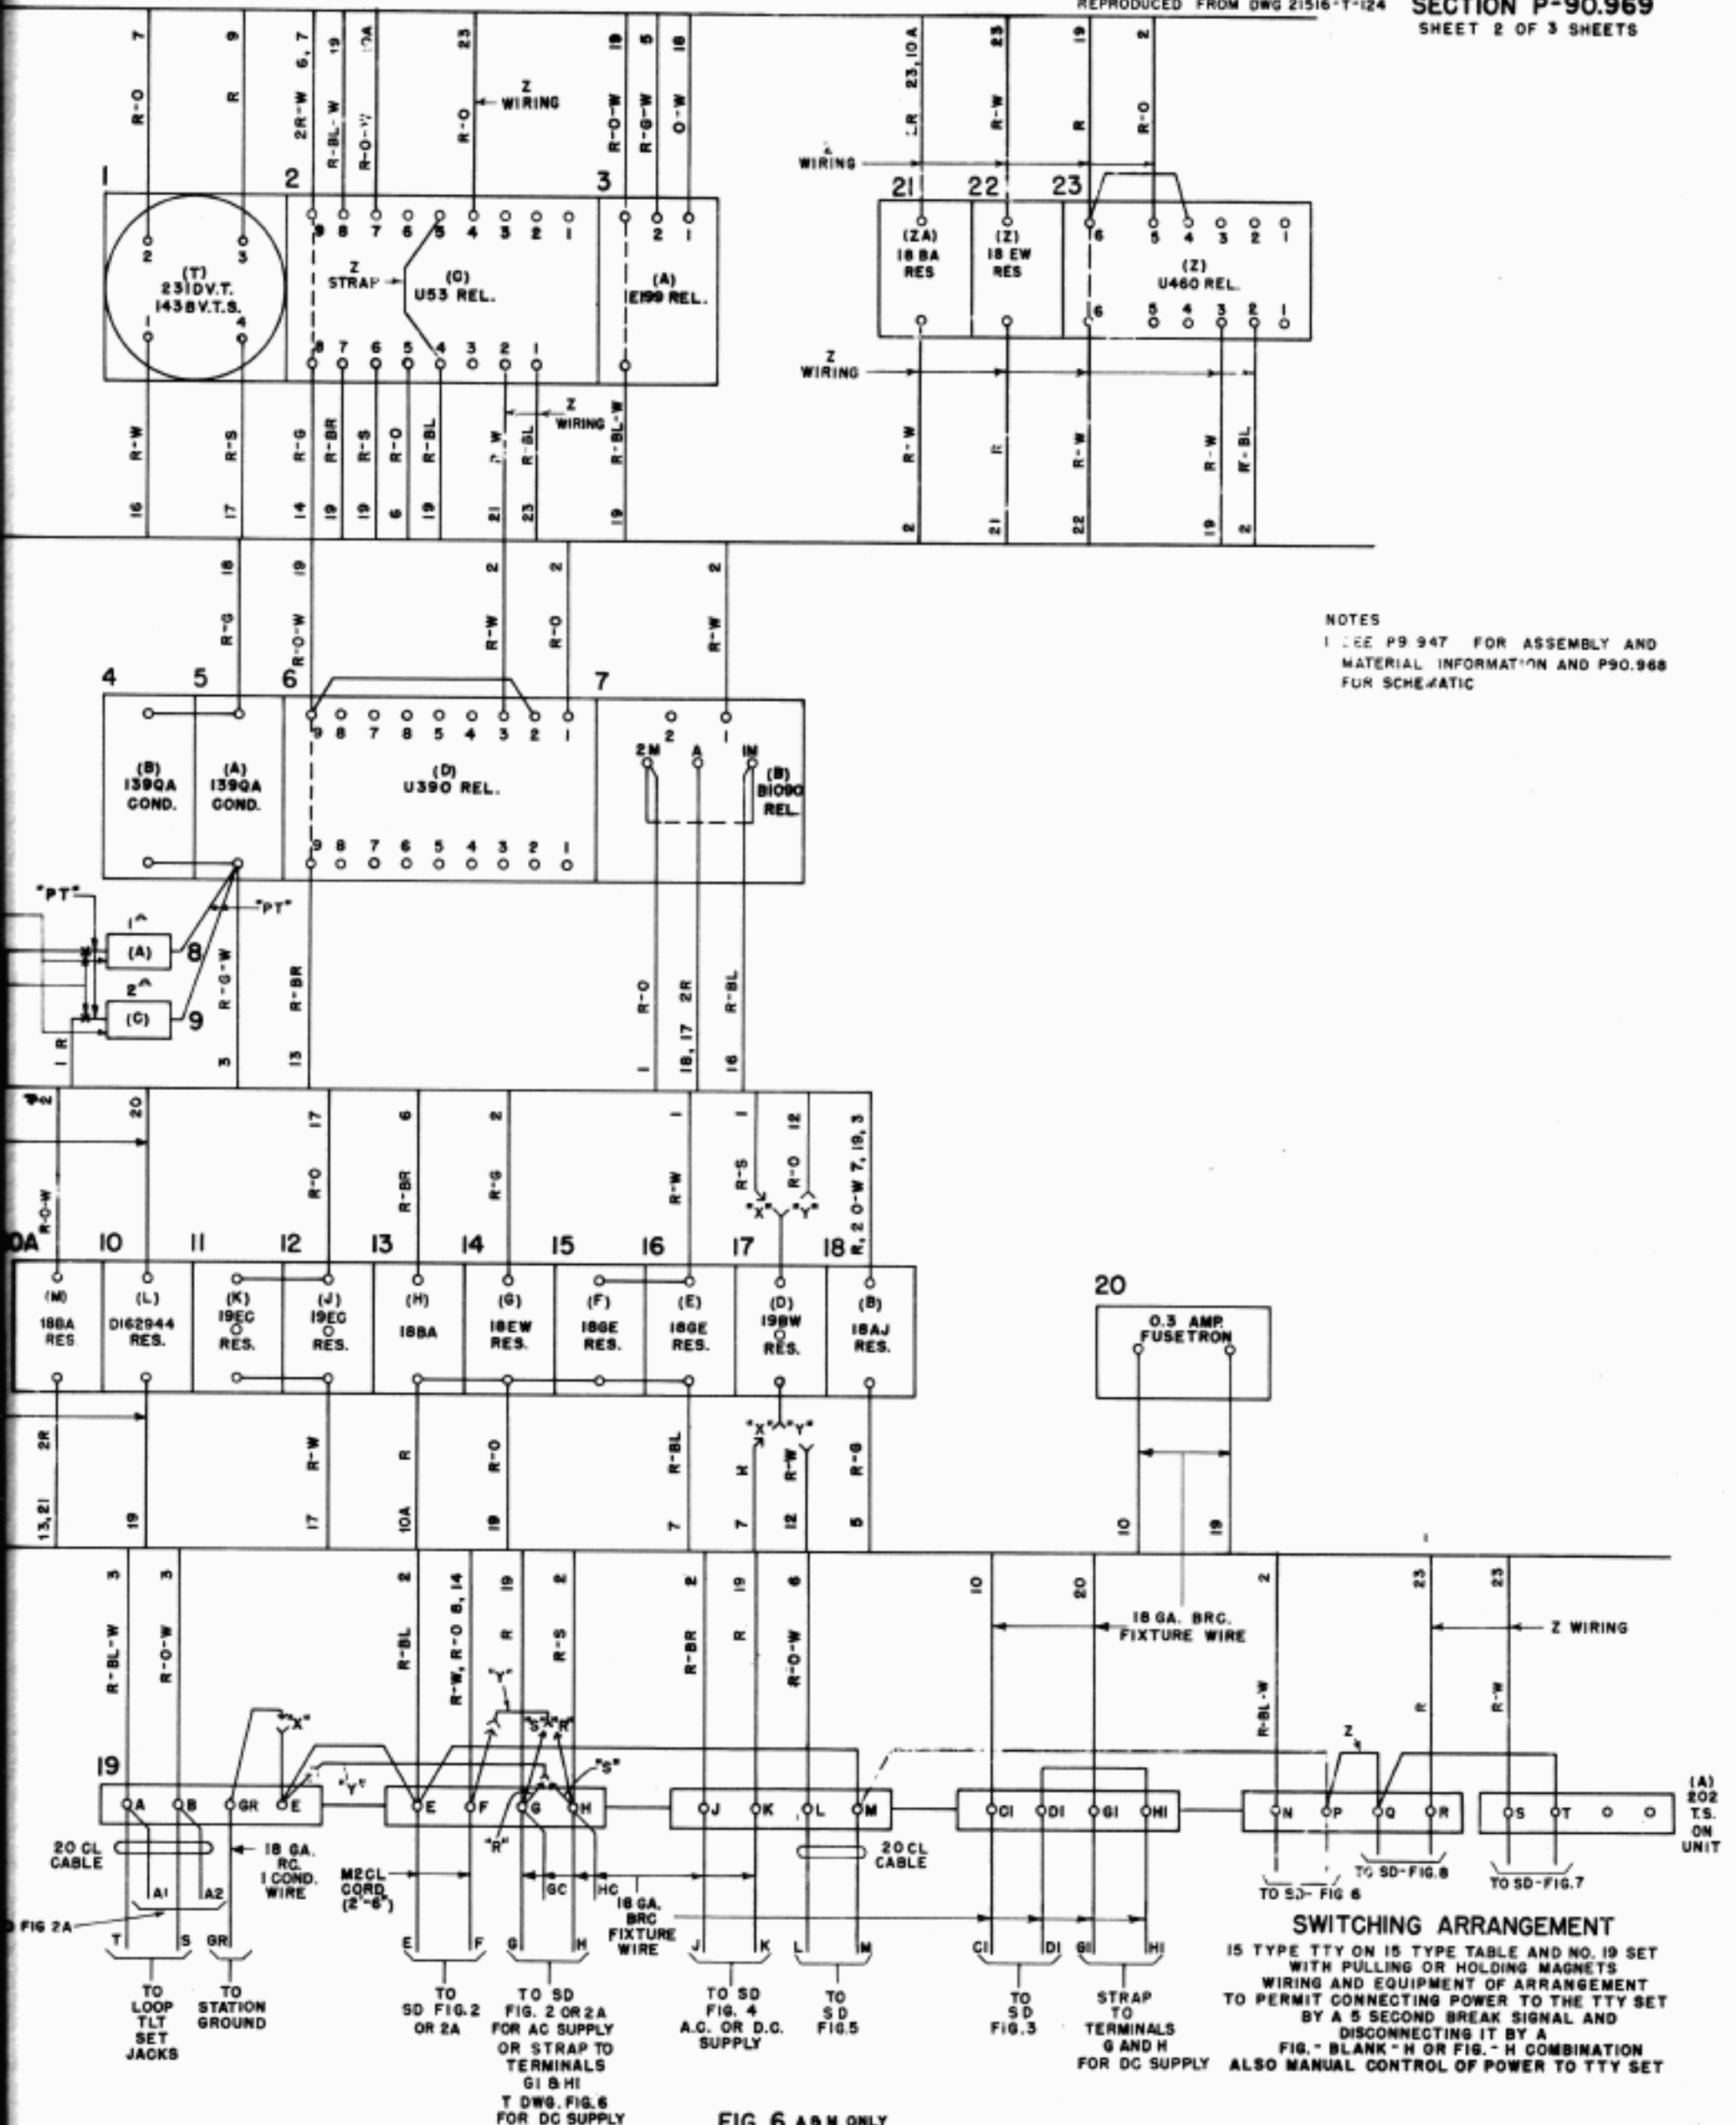

FIG. 6 A & M ONLY
3. SETS MFD. PRIOR TO ISS. 7, 21516-SD-116 HAVE (X) WRG. AND APP. ONLY FOR A.C. OPERATION. TO CONVERT SETS MFD. PRIOR TO ISS. 7 FOR D.C. OPERATION ADD (Y) WRG. AND APP. AND OMIT X WRG. AND APP. FOR NEW SETS PROVIDE ARRANGEMENTS PER FIG. 6 P90.969. AND P91.947 FIG. 1.
CHANGES FROM FIG. 6 (A&M ONLY) SHEET 2: